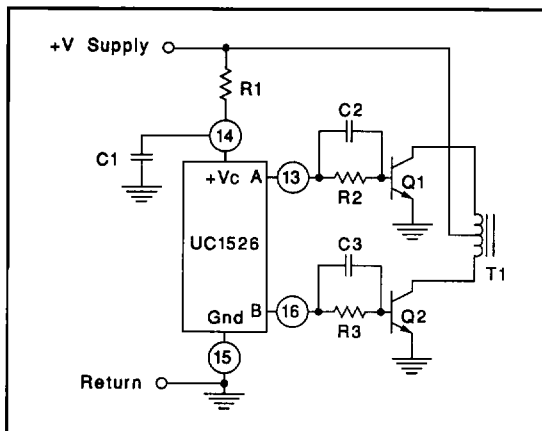

Figure 7. Push-Pull Configuration
1. With Rd = 0 (pin 11 shorted to ground) select values for RT and CT from Figure 7 to give the desired oscillator period. Remember that the frequency at each driver output is half the oscillator frequency, and the frequency at the +Vc terminal is the same as the oscillator frequency.